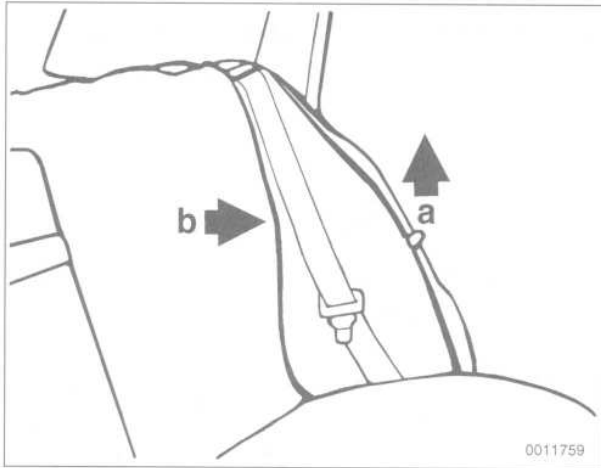

Fig. 19. Remove backrest side section by lifting up (a) and out (b). Left rear seat side section shown.
- Tilt backrest forward and use flat screwdriver to unlock retainers. See Fig. 19. Lift out backrest.
1. Lift backrest side section out and up. See Fig. 19.